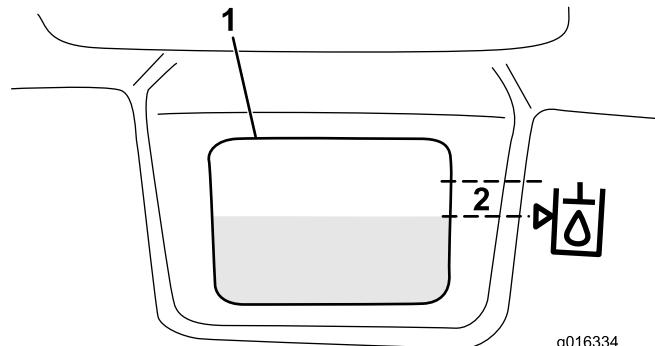

Figure 31
3. Slowly fill the reservoir with the appropriate hydraulic fluid until the level is at or within 0.25 inch (6 mm) of the arrow in the symbol next to the white window in the front of the reservoir (Figure 31). Do not overfill.